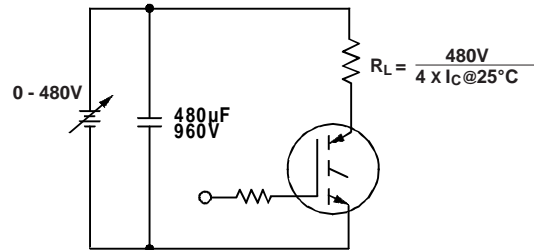

Fig. 13b - Pulsed Collector Current Test Circuit
- ① Repetitive rating; $V_{GE} = 20V$, pulse width limited by max. junction temperature. (See fig. 13b)
- ② $V_{CC} = 80\%(V_{CES}), V_{GE} = 20V, L = 10\mu H, R_G = 5.0\Omega,$